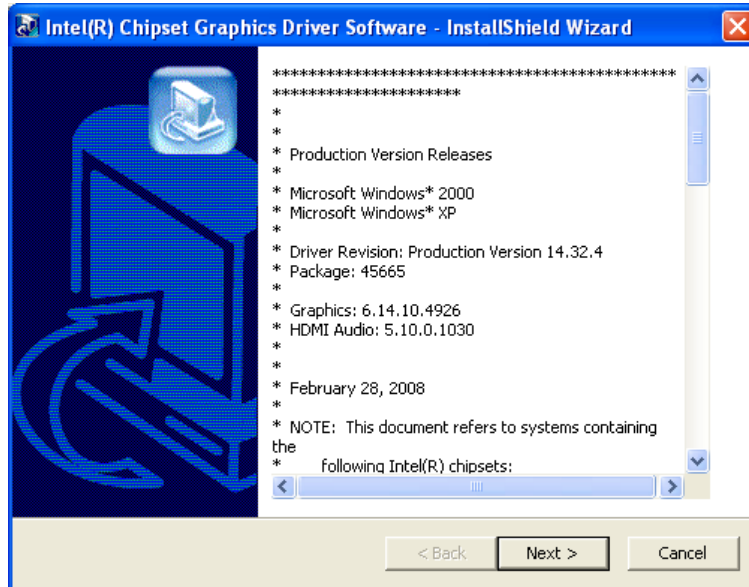

Figure 7-10: VGA Driver Read Me File
Step 3: The VGA Read Me file in Figure 7-10 appears.